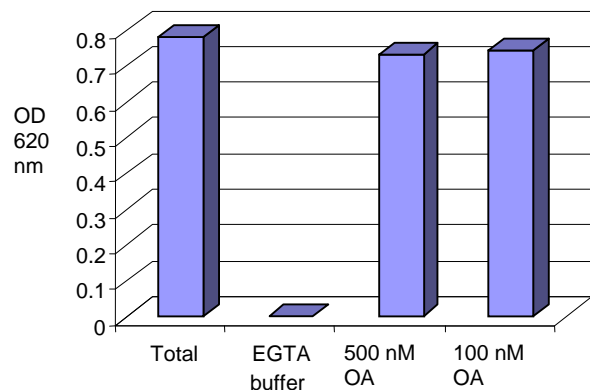

FIGURE 3. CaN POSITIVE CONTROL
ANALYSIS DESCRIPTION: This assay uses the RII phosphopeptide, the best known substrate for CaN (PP2B). Nonetheless, in cellular extracts, the phospho-group is cleaved by other competing phosphatases. Thus, a series of conditions must be employed to discriminate between the contribution of other phosphatases. CaN requires calcium for its activity, thus the "EGTA buffer" sample represents total phosphatase activity less CaN. Okadaic acid (OA) at 100 and 500 nM is known to completely inhibit PP1 and PP2A, while it has no effect on CaN (see Figure 3). Finally, OA + EGTA buffer inhibits PP1, PP2A and PP2B, but not PP2C. Thus, for a given biological system, the analysis of these samples allows the quantification of calcineurin (PP2B) activity in a cellular extract. These methods have been described in the literature. Additional experimental modulation of the cell extracts may be desirable. Inhibitors of calcineurin, calmodulin and calcium ion modulators may be appropriate.